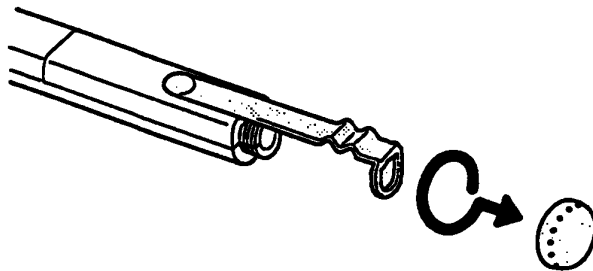

Figure 4-23 Removing the Cap
If it becomes difficult to input data with the stylus, it may be necessary to change the batteries. To remove the stylus's batteries, follow the steps below and refer to Figures 4-23 through 4-25.
1. Unscrew the cap that secures the stylus's clip (Figure 4-23).
- Attach the clip and screw on the cap (Figure 4-23).